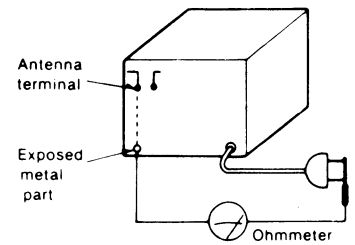

Fig. 1
3. Measure the resistance value with ohmmeter between the jumpered AC plug and each exposed metal cabinet part, such as screwheads, antenna, control shafts, handle brackets, etc. Equipment with antenna terminals should read between $3\text{ M}\Omega$ and $5.2\text{ M}\Omega$ to all exposed parts*. (Fig. 1) Equipment without antenna terminals should read approximately infinity to all exposed parts. (Fig. 2)